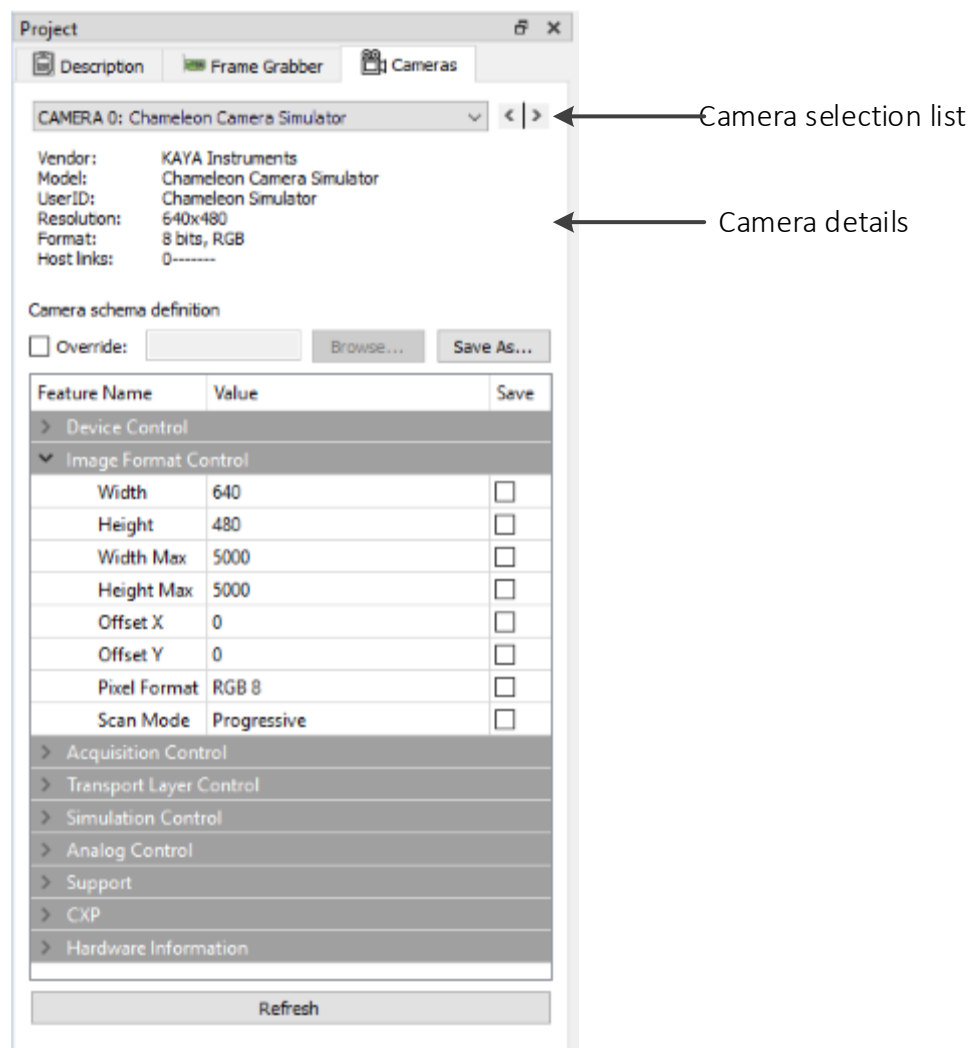

Figure 3 – List of connected cameras
1. A General tab is used to list the connected cameras to the chosen Frame Grabber. It also shows camera details, as shown in Figure 3.